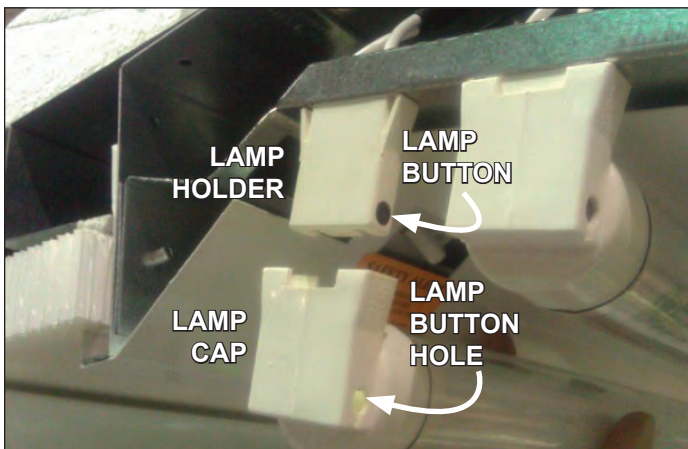

Fig. 8 Remove old T-8
1. Simultaneously pull down at both ends of the old T-8 light to remove from the lamp holder (Fig. 8). Remove the lamp caps and plastic shield from the old light, then discard the light.